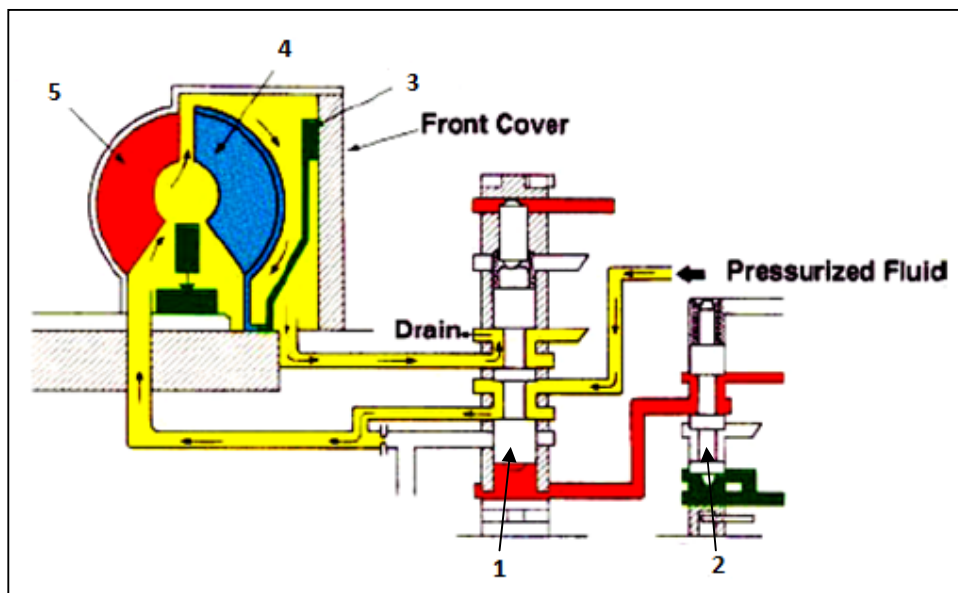

Figure 2: torque converter clutch operation
a) By referring to figure 2, answer the questions below